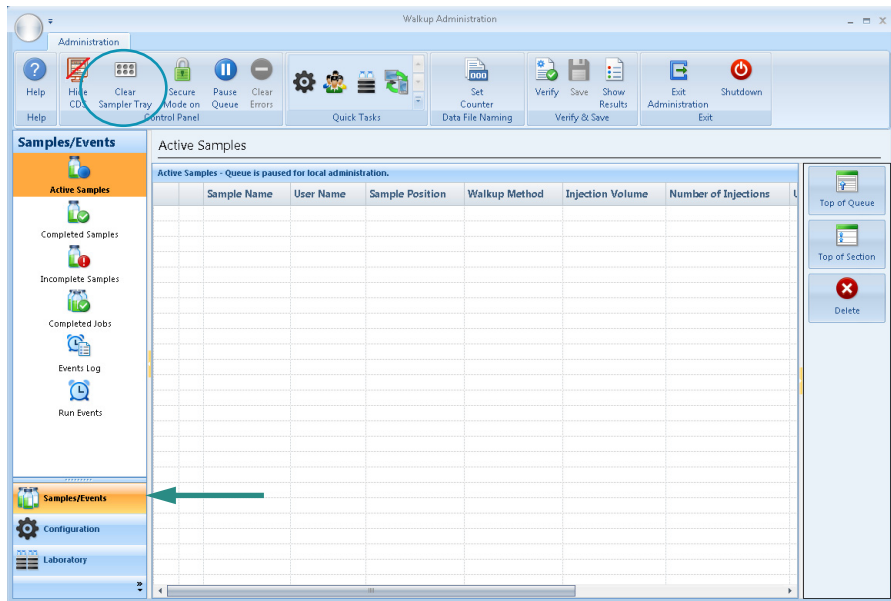

Figure 19 Clear Sampler Tray in the Samples/Events ribbon
- 4 Click **Samples/Events**  from the list of actions along the left side of the Administration main window (see Figure 19). See “To open the Samples and Events pane” on page 28.
- 2 Click **Samples/Events**  from the list of actions along the left side of the main window (see Figure 19 on page 27).